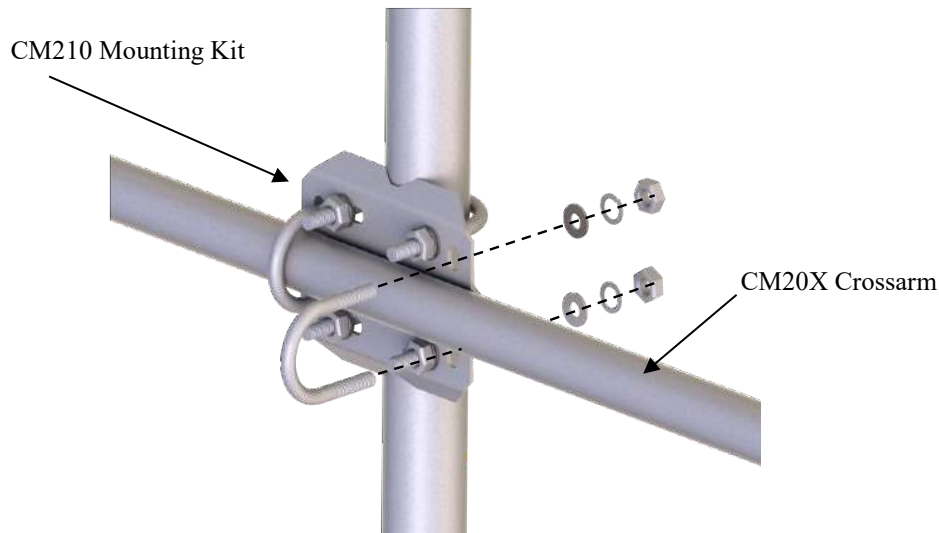

FIGURE 7-3. CM210 mounting kit with CM20X crossarm
1. Secure the chosen crossarm to a tripod or other vertical structure using a CM210 crossarm-to-pole mounting kit as shown in FIGURE 7-3.